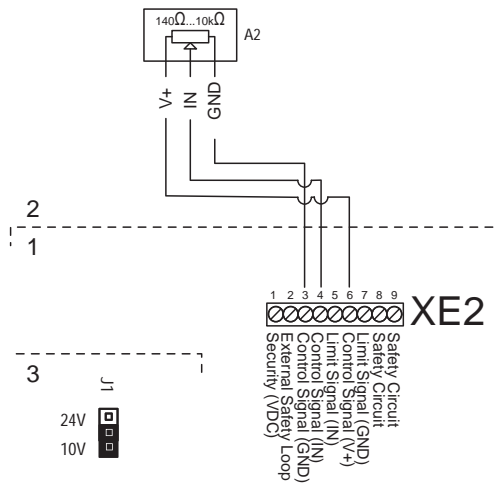

Figure 16 - Ohmic Humidity Controller Connection
4. Connect the signal cables of the ohmic humidity controller to terminals 3 (GND), 4 (IN), and 6 (V+) of the control terminal block, XE2. Refer to Figure 16 above.